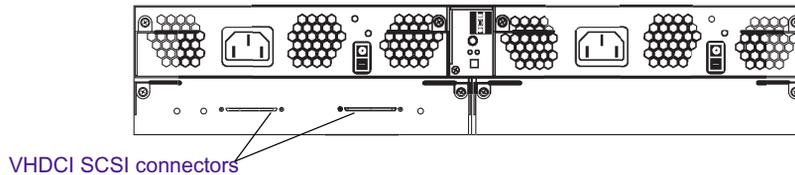

Figure 20 Connecting a SCSI Cable in a Single-Bus Configuration
4. Connect the other end of the Ultra320 SCSI cable to either VHDCI SCSI connector on the rear of MediaDock Ultra320 (see Figure 20).